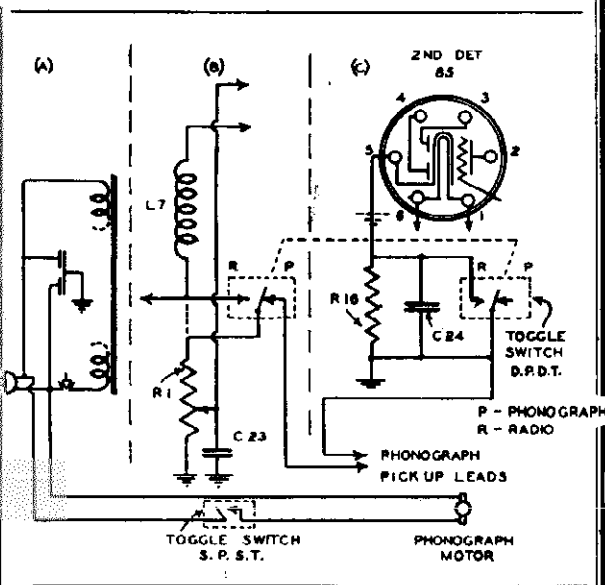

FIG. 1
THE MODEL 85-X PHONOGRAPH COMBINATION has the circuit changes shown in Fig. 1 in addition to the regular schematic diagram. The dotted lines in Sections (B) and (C) are shown solid in the regular schematic diagram and toggle switch (D. P. D. T.), condenser C24 and resistor R16 are added. Section (A) shows connections of toggle switch, Part A-5905, and phonograph motor on Model 85-X.
A PHONOGRAPH PICK-UP may be used with the Models 80, 83, 84 and 85-X by incorporating the toggle switch (D.P.D.T.), Part A-11561, condenser C24 (10 MFD., Part A-10377), resistor R-16 (5,000 ohms, 1/4 watt, Part B-5458-16), and the circuit changes shown in Fig. 1, Sections (B) and (C) only. The toggle switch may be mounted by drilling a 1/2-inch hole in the back of the chassis, 4 inches from the left hand side and 1 inch up from the bottom.